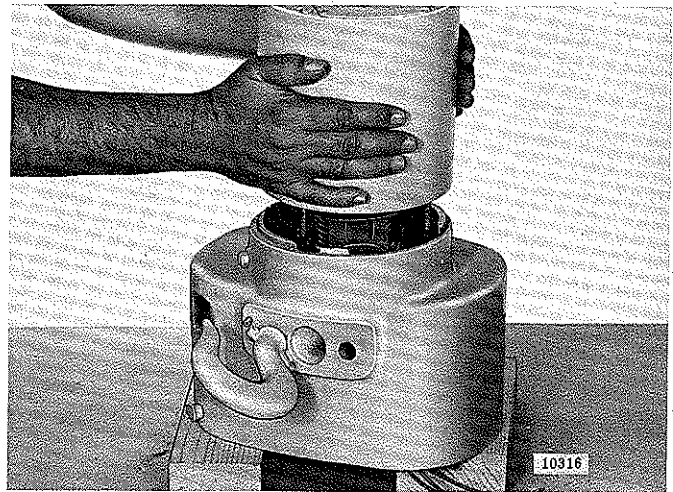

Figure 7-10. Removing Motor Assembly
(1) Place hoist frame on wood blocks to protect integral gear on motor shaft. Loosen four motor mounting bolts and lift motor assembly from frame (fig. 7-10). Guide motor leads through wire passage to avoid damage. Remove friction disc spring from splined brake hub on motor shaft.
(2) On single phase model hoists, motor brake parts are attached to motor shaft and will come off with motor. On three phase models, the brake parts are assembled to frame.